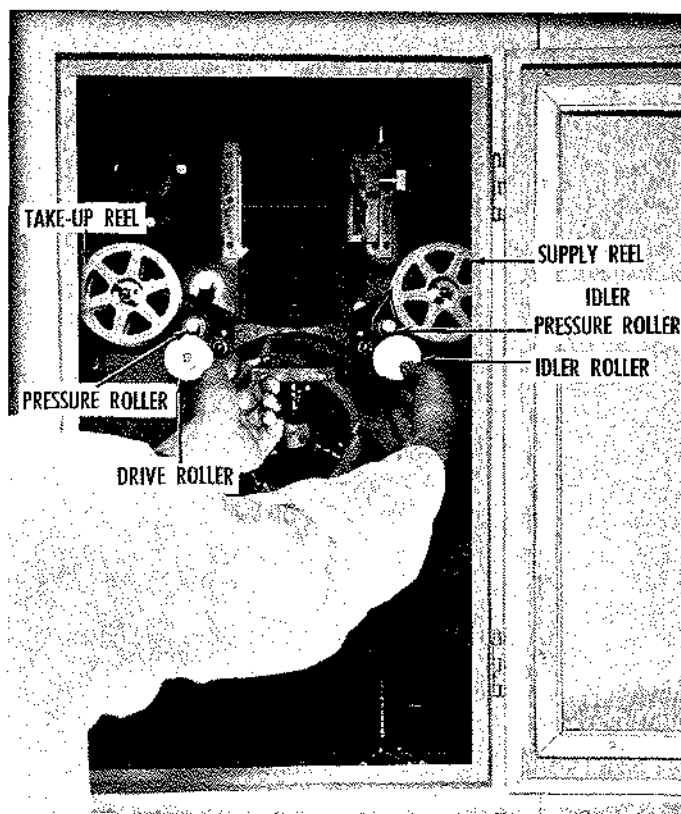

Figure 23. Film Threading
Load the film as follows (see figure 23):
3. Thread the film through the four rollers as shown in figure 23.
If the carriage has been removed for loading, the reinstallation procedure is the reverse of removal. As the carriage is installed the drive roller keyway must be aligned with its shaft key, the film must be guided over the lens turret (see figure 23), and the film carriage mounting studs reinstalled.